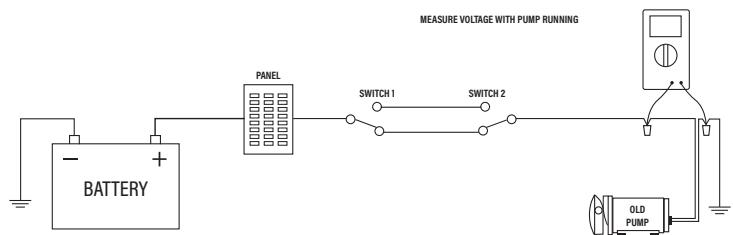
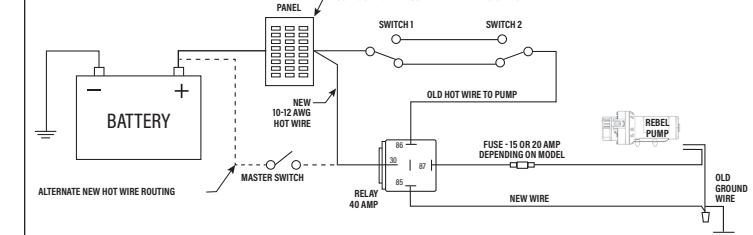
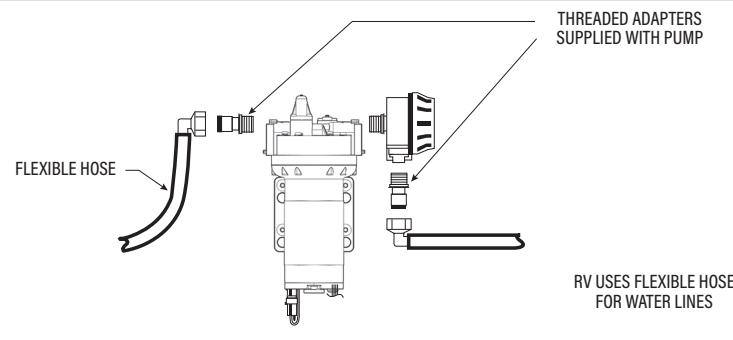
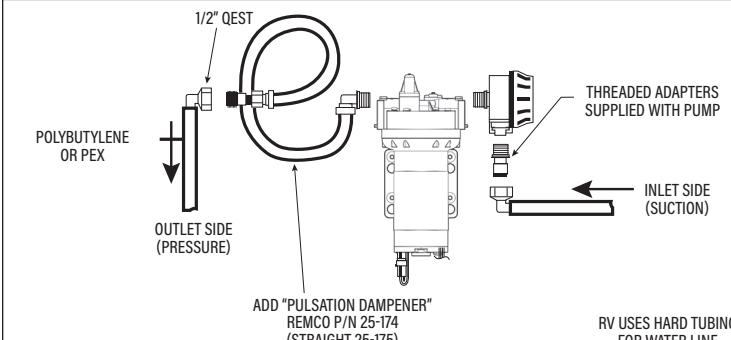

Figure 1: Typical RV two-switch wiring
Figure 2: New Rebel Installation
Figure 5
Figure 6
If the voltage drop with your existing pump (typically 5 Amps) exceeds 1 Volt you will need to pull a new heavier (10-12AWG) 'hot' wire to the pump AND use a 40 amp relay (referenced in section 1b above) to connect your Rebel pump (see Figures 1 and 2, page 4).
4. Survey the existing plumbing and identify the suction line (i.e. the line going from the water holding tank to the pump). For the quietest possible operation of the Rebel pump, you should try to isolate the pump mechanically from your RV's typically hard Polybutylene or PEX tubing. If your RV is currently plumbed with soft-walled, reinforced hose (see Figure 5, page 5), then your system should be perfectly sufficient as is. By installing a piece of IAPMO approved cold water hose (such as 'Accuflex' Series 136) between the pump outlet port and your RV's hard plumbing, you will achieve the quietest possible pump operation. Remco also offers, as an optional accessory, a 39" long pre-assembled hose with fittings (Remco product number 25-174) that will adapt directly to the Rebel RV and your existing plumbing. Please refer to Figures 6 & 7, page 5.
5. At the end of your survey you should have determined how to wire the Rebel pump. Your alternatives are illustrated in Figure 1, page 4 ("no change," also applicable for single switch systems), Figures 2, 3 or 4, page 4 or Figure 8, page 5. You should also have determined how to plumb the pump. Your options are Figures 5, 6 or 7, page 5. Always make sure you have all hardware needed before you start the actual installation.
6. Steps 1 and 2 of the earlier 'Installation Planning' section should have determined the applicable wiring method. As appropriate, wire the Rebel pump as per Figures 1, 2, 3, 4 or 8, pages 4-5.
- a. [For old pump outlets connected to hose, as in Figure 5, page 5]
- b. For old pump outlets directly connected to hard tubing, as in Figure 6, page 5].
- a. [If the Rebel pump is to be directly plumbed to the existing inlet filter/fitting, as in Figures 5 and 6, page 5]. Insert the O-ringed end of threaded adapter into the pump's inlet port (look for arrow pointing towards the center of the pumphead). Lock fitting in place by pushing down retainer slide.
12. If an Accuflex hose adapter is used on the outlet side (see Figures 6 and 7, page 5), place the other end of the hose adapter up high. This should stop water from being siphoned out.
- a. [If you are plumbing per Figure 5, page 5] Place a bucket under your plumbing system's pressure hose, have an assistant open two inside faucets and drain water from the pressure line. Connect the pressure hose fitting to the Qest adapter on the pump outlet side.
- b. [If you are plumbing per Figures 6 or 7, page 5] Place the open end of the Accuflex tubing from the Rebel outlet port into the bucket.
20. Water should be flowing into the bucket (see Figures 6 and 7, page 5) or into the sinks (see Figure 5, page 5).